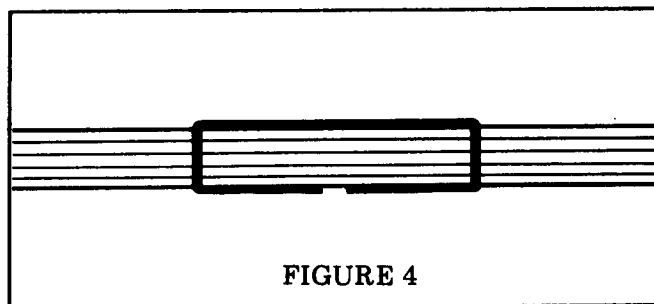

FIGURE 4
5. Close wire feed gears. Operate the stitcher under motor power, driving several stitches into material of the same thickness as the work to be stitched. Examine resulting stitches to determine if the correct amount of wire is being used (figure 4 shows what the stitch should look like).
To obtain correct compression, place work material on the clinchers. Then raise or lower the clinchers so that the work material is held firmly between the clinchers and the formers when the formers are at the lowest point of their stroke (turn flywheel by hand to lower formers). Final adjustment should then be made with the stitcher under motor power until the stitch has the correct compression. See figure 4.